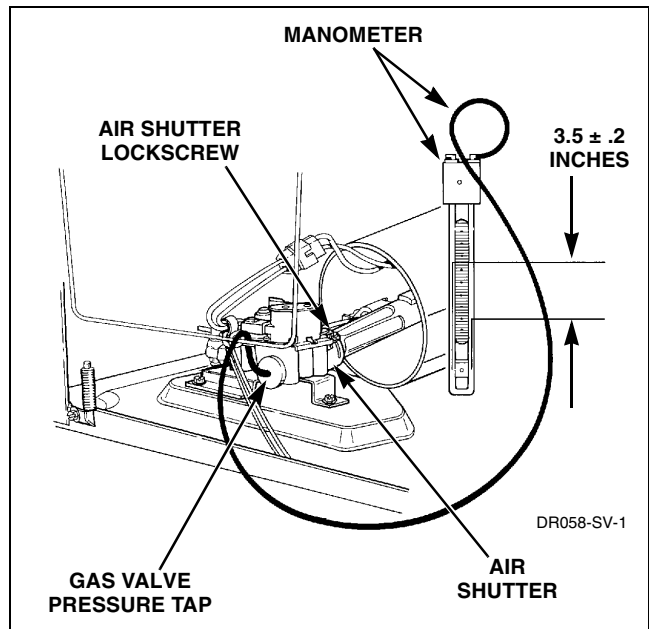

Figure 49
- (2) Connect a “U” tube manometer (or similar pressure gauge) to the pressure tap. Refer to *Figure 49*.
- (3) Start dryer, pressure should be $3.5 \pm .2$ inches ($8.9 \pm .5$ cm). Refer to *Figure 49*.
- (1) Loosen the air shutter lockscrew. Refer to *Figure 49*.